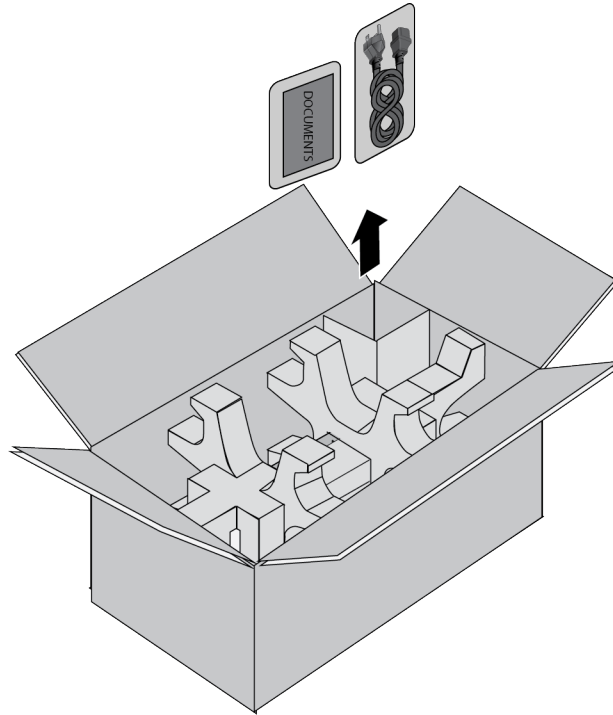

Figure 52. Removing the Power Cord and Documents from the PWR600 AC Power Supply
1. Remove the power cord and any documents from the accessory partition. Refer to Figure 52.